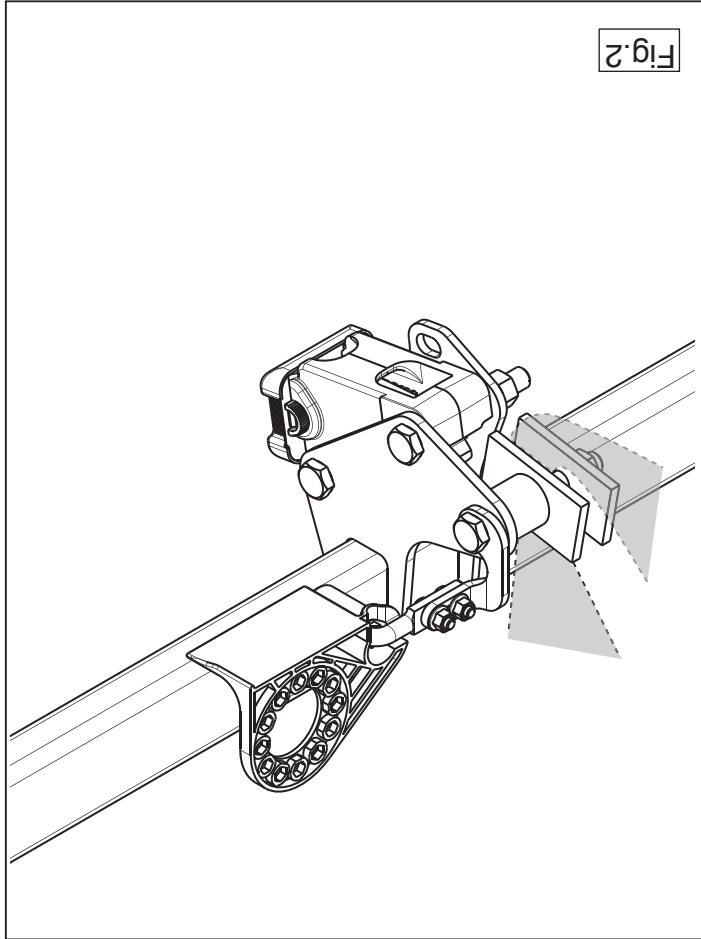

Fig.2
5. Monteer de dwarsbalk D in het midden aan de sleepoog inclusief deugel (9585650) (fig.2).
5. Fit the cross beam D centrally onto the towing eye including bracket (9585650) (fig.2).
5. Den Querbalken D in der Mitte an der Schleppöse befestigen einschließlich Bügel (9585650) montieren. (Abb. 2).
- collier (9585650) (fig. 2).